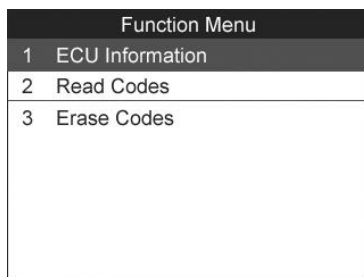

Figure 4.10
- 1) Follow **4.1 Vehicle Selection** procedure to enter the vehicle information. The scan tool displays a function menu (Figure 4.10).(Taking **Fiat** as an example)
- 1) Follow **4.1 Vehicle Selection** procedure to enter the vehicle information. The scan tool displays a function menu (Figure 4.10). (Taking **Fiat** as an example)